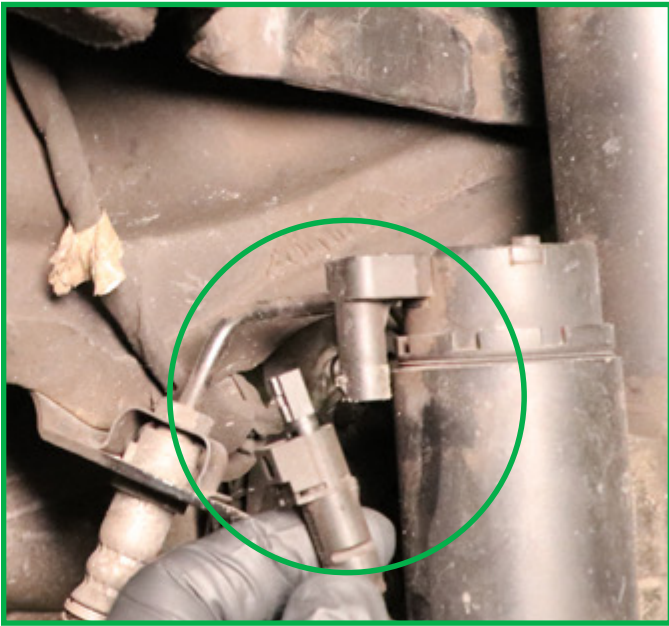

FIGURE 38
9. Connect the two (2) electrical connections to the strut. (Figures 38, 39)